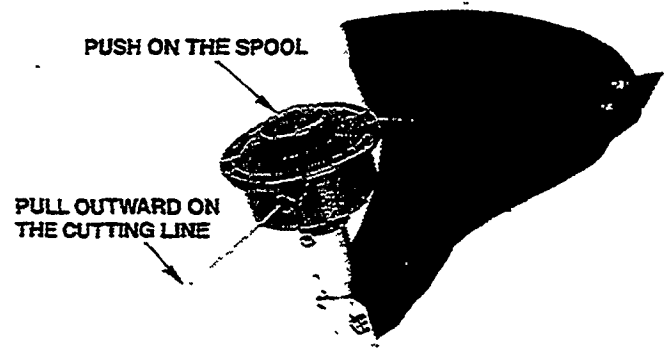

Figure 13
- With engine stopped line can be advanced manually by turning the unit over so you are facing the bottom of the rotary head (Fig. 13). While pulling outward on one of the cutting lines, push in on the spool. When the line stops, release the spool and continue pulling the line. Keep repeating this procedure until the desired amount of line is extended.